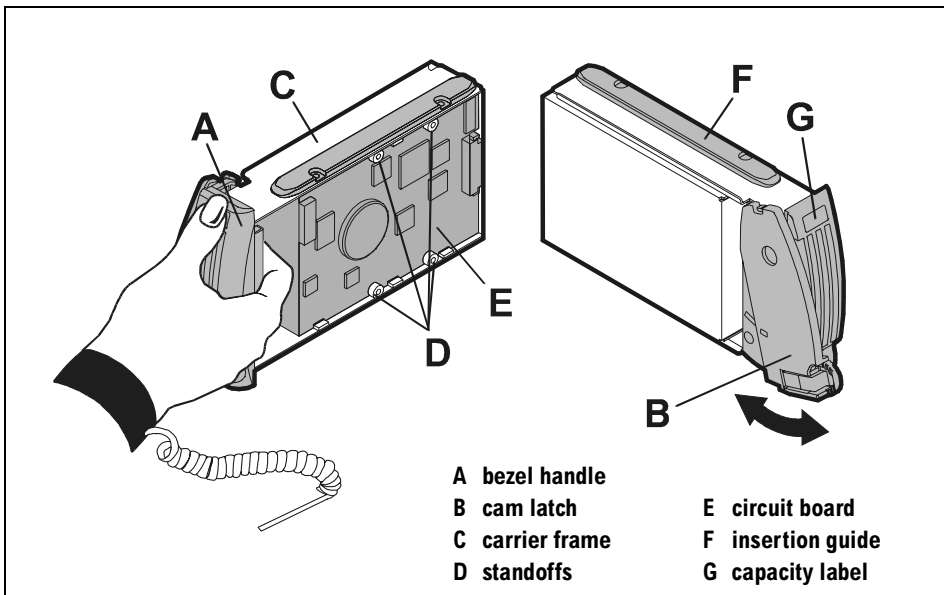

Figure 3 Disk
Disks, shown in Figure 3, are 3.5-inch Low Profile or Half Height disks in open metal carriers. Disks are multimode, meaning they are LVD capable and SE compatible; they adjust to the lowest signal speed detected.
- Bezel handle (A in Figure 3)
- Cam latch (B)
- Insertion guide (F)